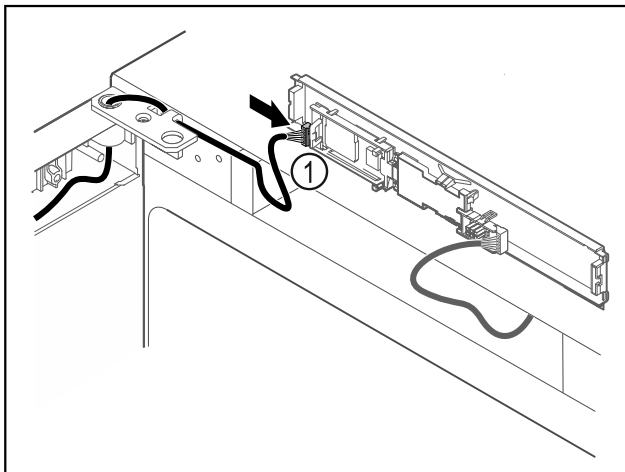

Fig. 64
- ▶ Connect the plug Fig. 64 (1) to the circuit board.